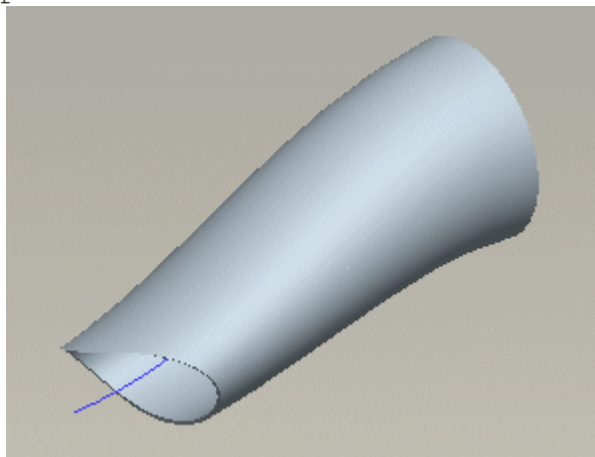

Figure 1
1. The intended result of this procedure is to bend geometry along a trajectory as shown in Figure 1, using the sample model `spinal_bend_initial.prt`.